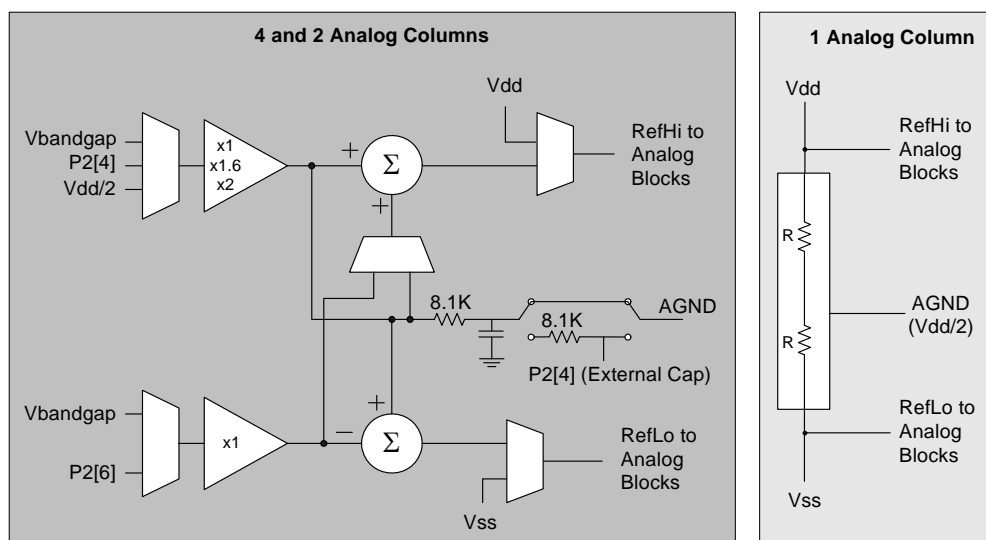

Figure 21-2. Analog Reference Control Schematic
**Note** The external bypass capacitor bit 6 (AGNDBYP) in the Bandgap Trim register (BDG\_TR: 1, EAh) controls the external bypass capacitor. The default value is zero, which disables this function (see Figure 21-2). The figure shows the two switches in the AGND path in their default state. If bit 6 is set, then the P2[4] IO should be tri-stated and an external capacitor connect from P2[4] to Vss.